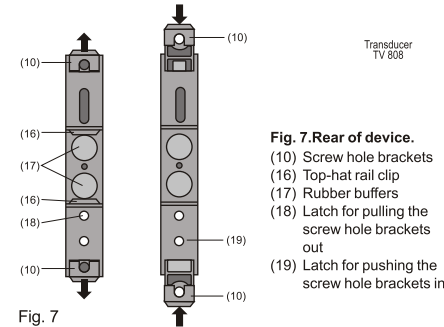

Fig. 7
The wire pressing the latch (18) in the base of the device (Fig. 7, left), pull out the transmitter securing brackets (10).
To return the brackets to their original positions, the latch (19) in the base of the device has to be depressed before applying pressure to the securing brackets (10) (see Fig. 7, right).